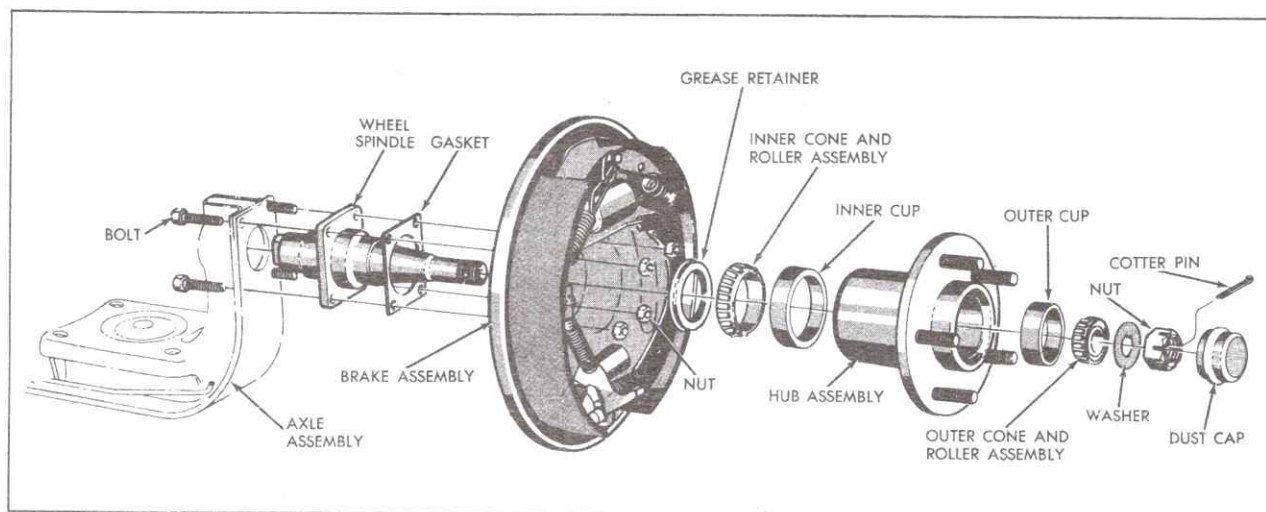

Fig. 4-36 Rear Wheel Disassembled - 693
3. Remove dust cap, cotter pin, spindle nut, washer and outer cone and roller assembly, Fig. 4-36.
### 40. Rear Wheel Bearings and Grease Retainer (Fig. 4-36)